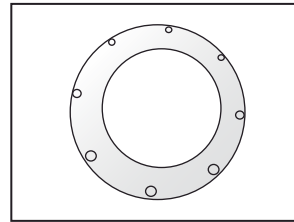

Figure 8.2
8.5. If horizontal and vertical flue lengths are less than 1m, the restrictor (air diaphragm)–Figure 8.2 must be fitted on the combination boiler.